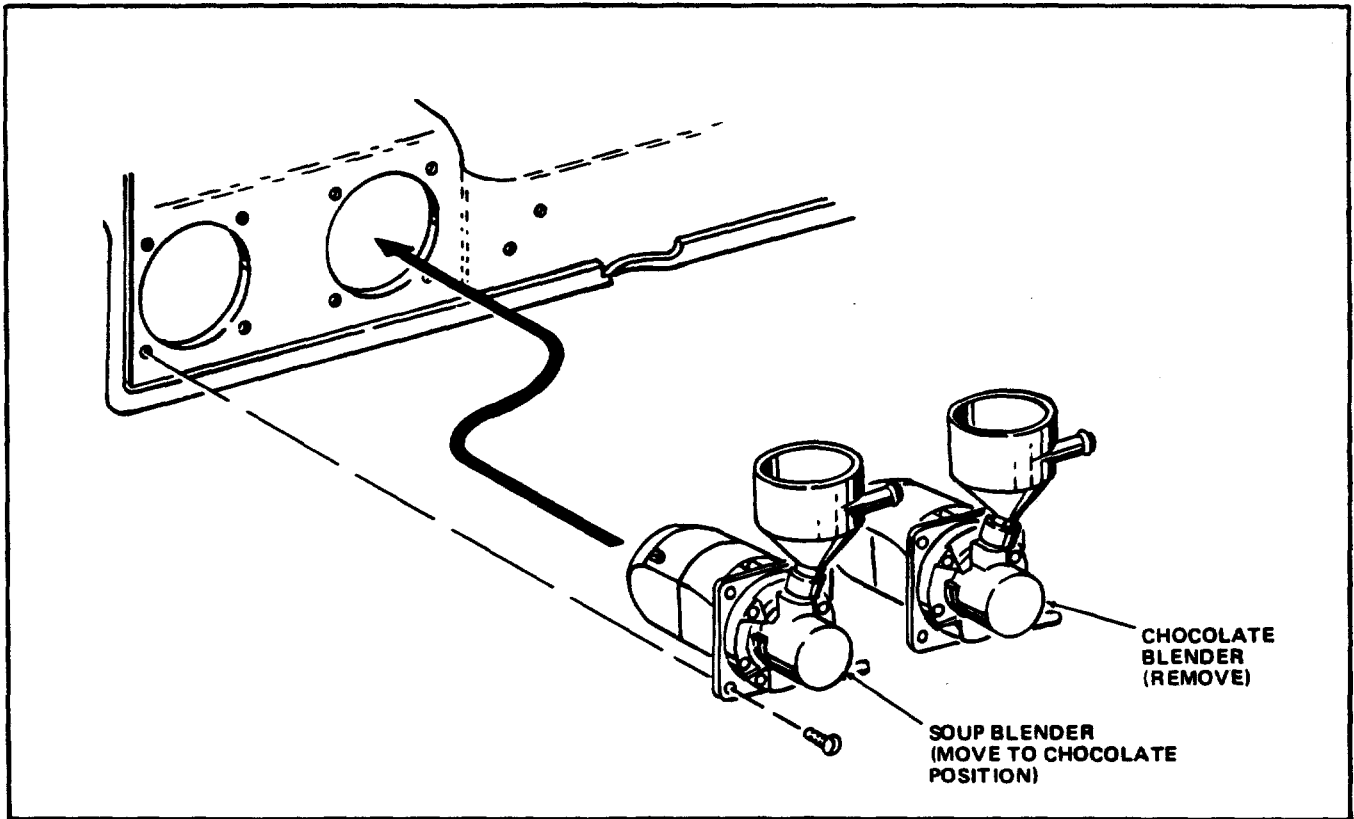

FIGURE 3
21. Remove four attaching Screws and the Soup Blender Assembly from the Dry Ingredients Shelf. See Figure 3.
23. Remove four attaching screws and the Chocolate Blender Assembly from the Merchandiser. See Figure 3.
24. Install the Soup Blender Assembly removed in Step 21 in the position that was occupied by the Chocolate Blender Assembly. See Figure 3. The Soup Blender will now serve as Chocolate Blender.